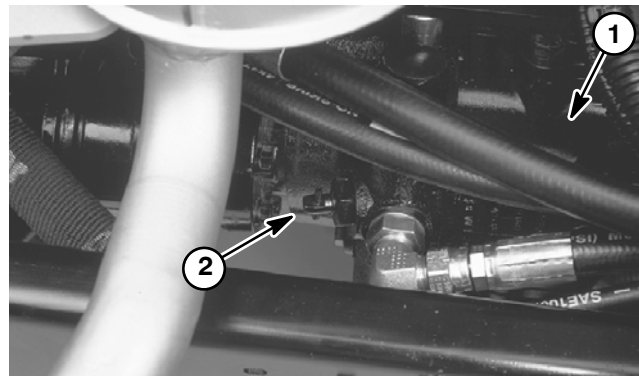
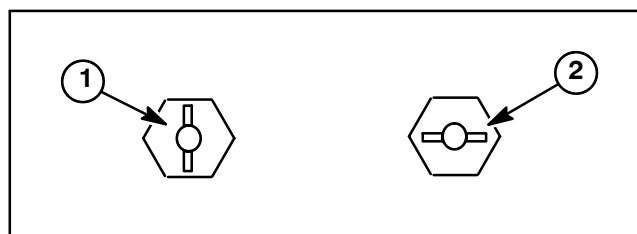

Figure 6
Figure 7
1. Locate by-pass valve on hydrostat pump (Fig. 6) and rotate it 90° to open the by-pass valve. This open position should be horizontal (Fig. 7).
3. Before starting engine, close by-pass valve by rotating it 90°. This closed position should be vertical (Fig. 7). Do not start engine when by-pass valve is open.